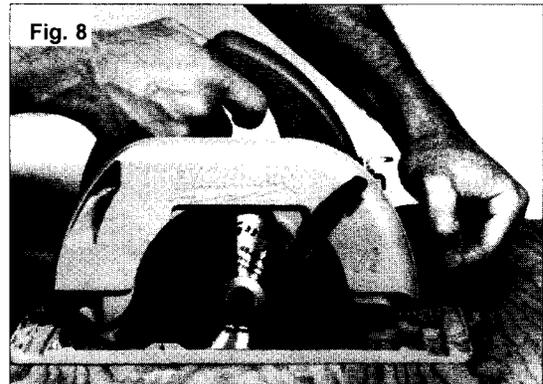

Fig. 8
#### General Operation (Fig. 8)
1. **Draw a cutting line.** Place the front of the shoe on the edge of the workpiece without making blade contact. Hold the switch handle with one hand and the depth/bevel adjusting knob (depending on model) with the other (Fig. 8). When using 10-1/4" saws, hold the switch handle with one hand and the front handle with the other.